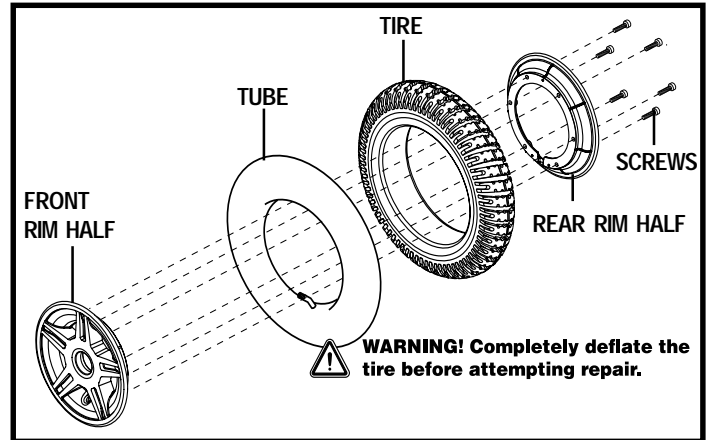

Figure 22. Jazzy Select 14XL Drive Wheel
6. Remove the screws that fasten the two rim halves together. See figure 22.